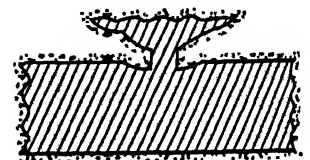

Fig. 8.36. Scab.
**13. Scab :** Refer to Fig. 8.36.